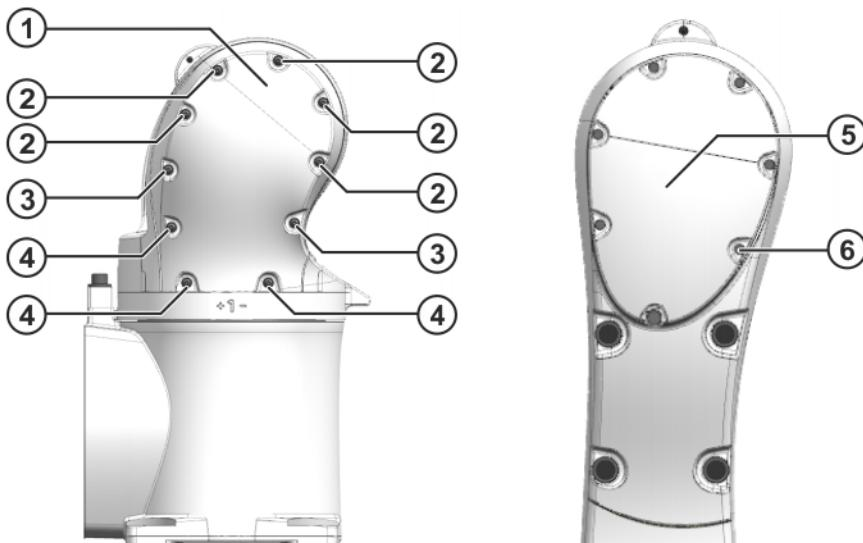

Fig. 9-4: Removing covers A2 and A3
1. Remove the following round head screws from cover A2 and take off cover A2 together with the seal (>>> Fig. 9-4):